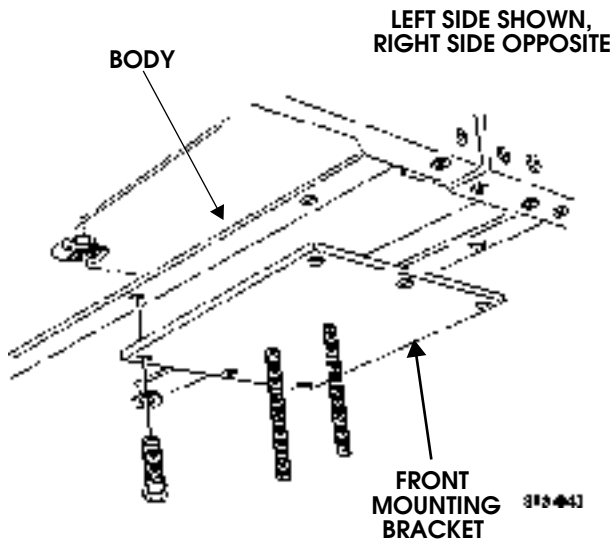

Figure 13-50: Front Mounting Bracket and J-Nut
- Remove four bolts, lockwashers, J-nuts, and front mounting bracket from body (Figure 13-50).
- Install front mounting bracket on body with four J-nuts, lockwashers, and bolts. Tighten bolts to 29-31 lb-ft (39-42 N•m) (Figure 13-50).